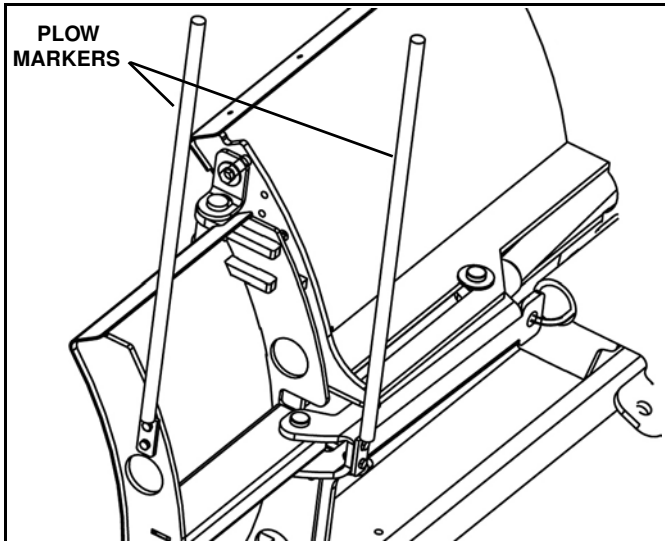

Figure 1-37
40. Attach a plow marker to each wing and wing link as shown and secure using 5/16 x1" cap screws and locknuts. (See Figure 1-37).